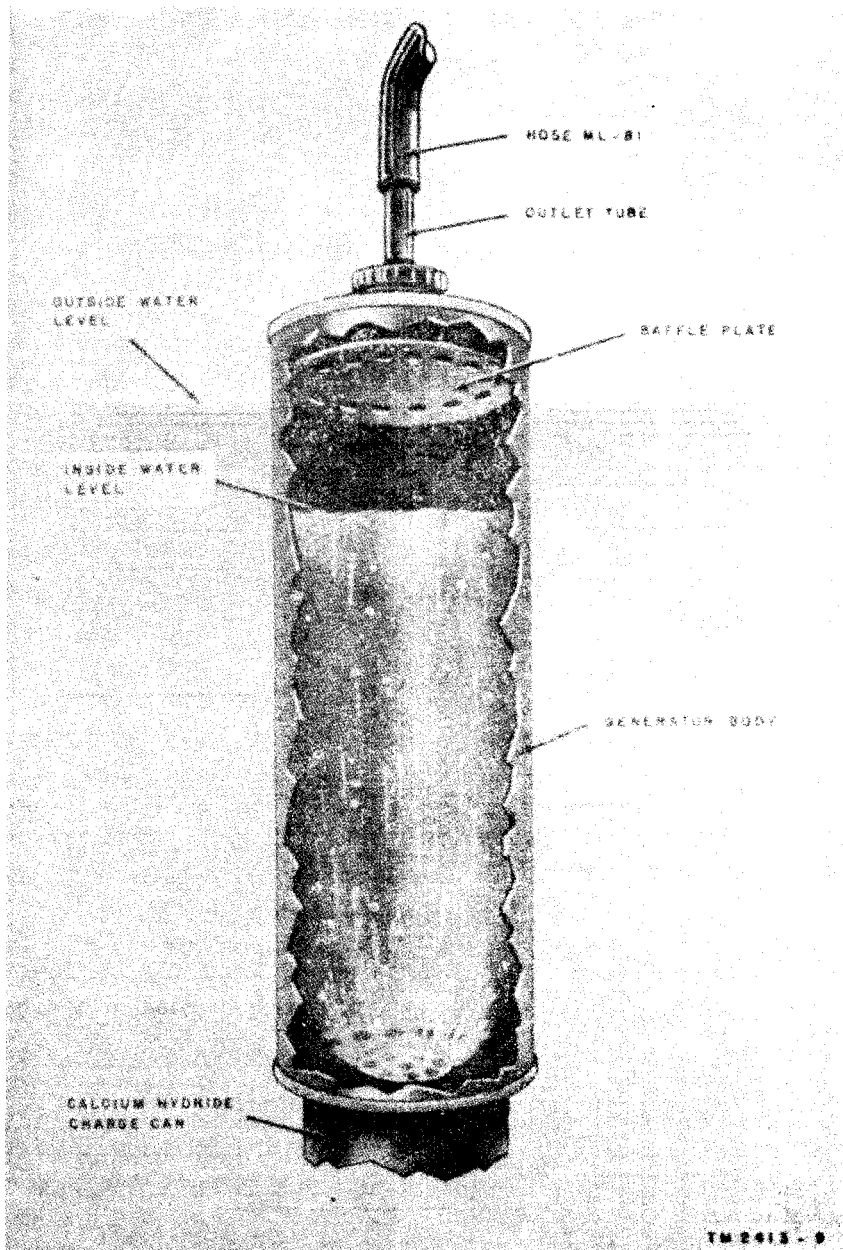

Figure 9. Generator action.
*a. Hydrogen Generator ML-303/TM* (fig. 9). When the generator is placed in the water, the water enters the generator through the holes in the bottom of the generator body and rises to the same level as the outside water. The water also enters the calcium hydride charge can through the knockout holes in the top of the can and reacts with the calcium hydride to form hydrogen gas. The hydrogen gas escapes through the holes in the top of the charge can and rises through the water to the top of the generator body. The gas then passes through the holes in the baffle plate, through the outlet tube, Hose ML-81, Balloon Nozzle ML-373/GM, and into the balloon. The outlet tube provides a narrow passage for the gas and therefore a pressure is created in the top of the generator body which forces the water inside the generator body down below the level of the outside water. The baffle plate prevents the passage of excessive water and waste chemicals from being carried through the outlet tube and into the balloon.